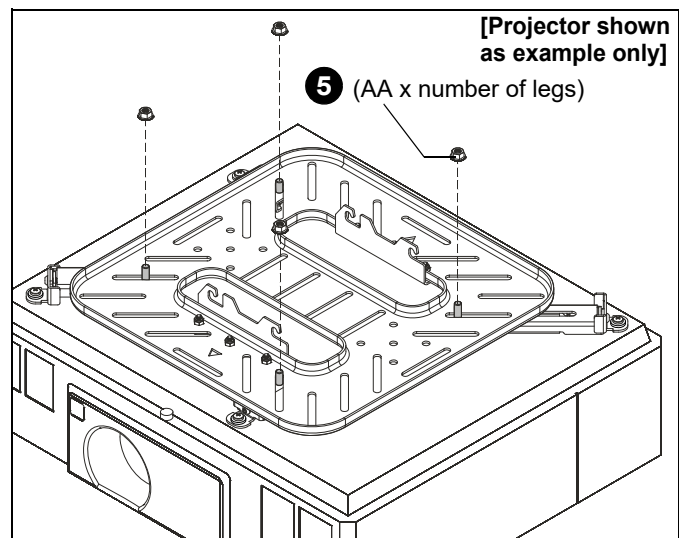

Figure 4
5. Fasten interface assembly (L) over sliding stud brackets in legs using one M8 flanged nut (AA) per interface leg (P or Q). (See Figure 4)